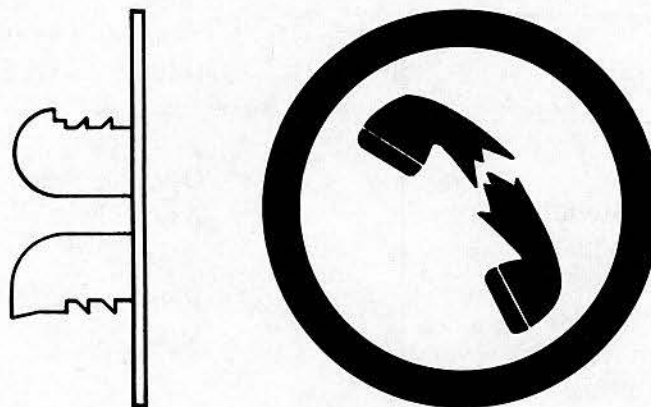

Fig. 4 – QSW1A Out of Service Sign
4.07 If the coin telephone set has been installed, but is not ready for service, place a QSW1A out of service sign in the coin entry slot so that customers cannot deposit coins. When service is established, remove the sign or arrange for the agent or other responsible person to do so. The QSW1A sign, as shown in Fig. 4, is installed by inserting the double pronged projection into the coin entry slot and pressing firmly into place until the sign is flush against the front surface. The sign may be removed by pulling it out of the coin entry slot.